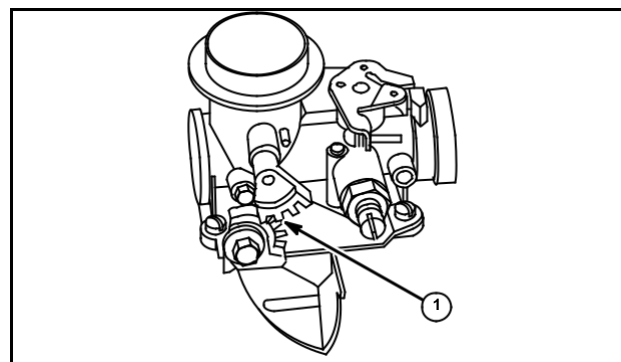

Fig. 47
4. With choke lever in wide open position, place choke lever bracket on fuel tank and engage bottom tooth of choke lever in top tooth slot on lever (1), Fig. 47.